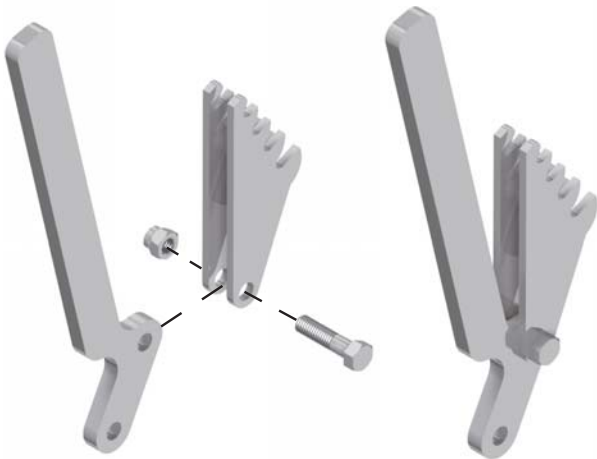

Figure 44
Using one (1) 3/8" x 1 1/2" Bolt and one (1) 3/8" Nylon Locknut, secure (*but NOT tighten*) the Ratchet Handle and Ratchet Bracket together. Once the Bolt and Nut have been attached, the Ratchet Adjustment Bracket should still be able to pivot on the Bolt. (see **Figure 44**)